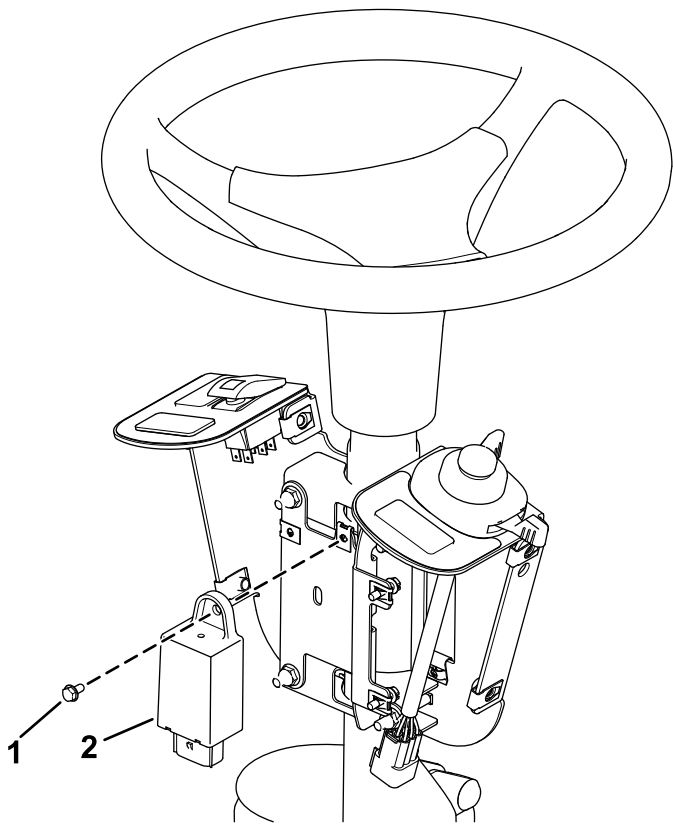

Figure 6
4. Install the flasher to the fuse-mount plate using a screw (#10 x 3/8 inch) as shown in Figure 6.